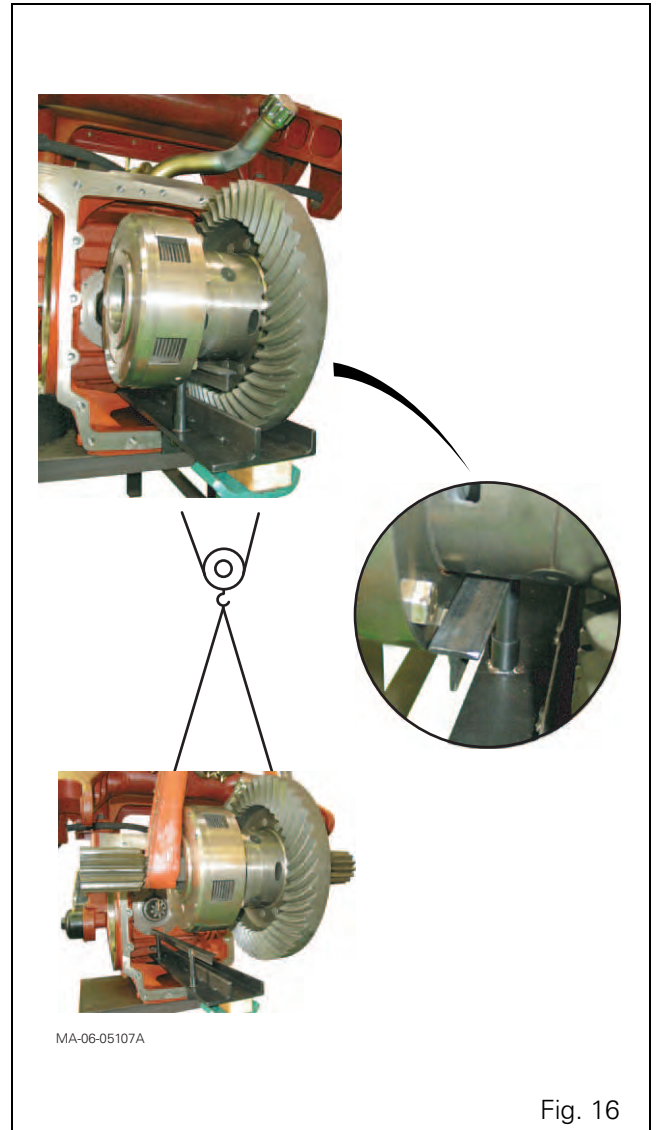

Fig. 16
68. Remove the differential unit assembly through the rear opening of the centre housing (Fig. 16).